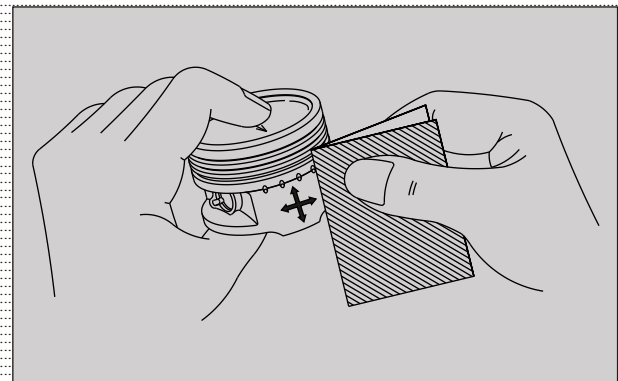

Fig. 3.163
- If piston sliding surface is badly scored or scuffed due to overheating, it must be replaced. Shallow grooves or minor scuff can be removed by smoothing with a fine emery paper (400 grade). (Fig. 3.163)